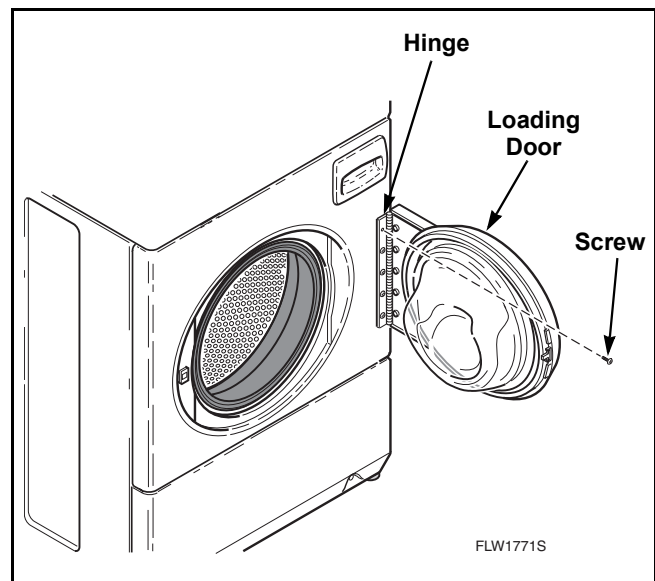

Figure 14
- b. The loading door can be adjusted up or down somewhat by loosening screws holding door hinge to front panel, then raise or lower door before retightening screws. Refer to *Figure 14*.